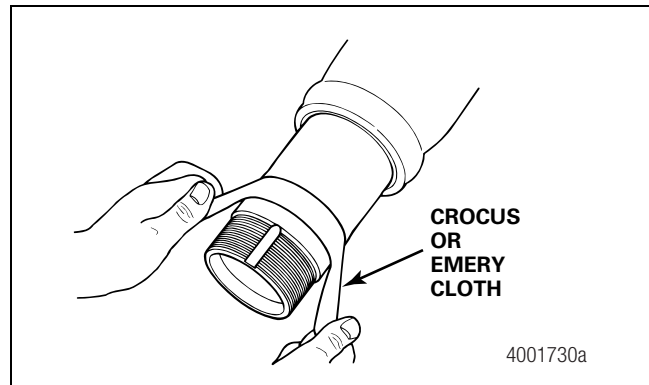

Figure 3.21
2. Check the axle spindle and hub bore for scratches, nicks or marks. Repair them with a crocus or emery cloth. Figure 3.21.